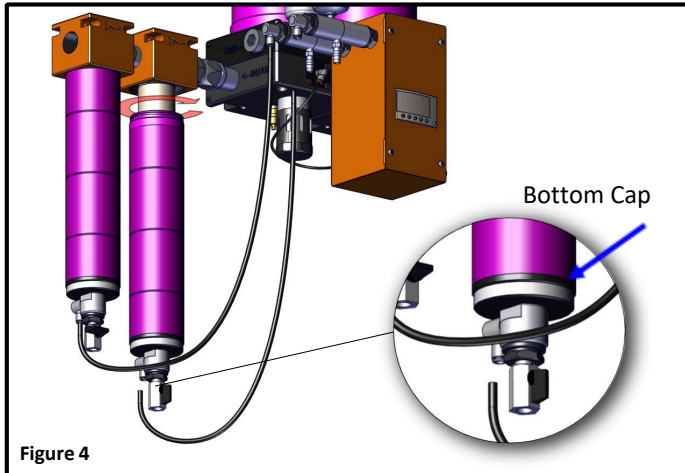

Figure 4
2. Disconnect the pilot line located at the bottom of the oil coalescing filter. *Figure 4*